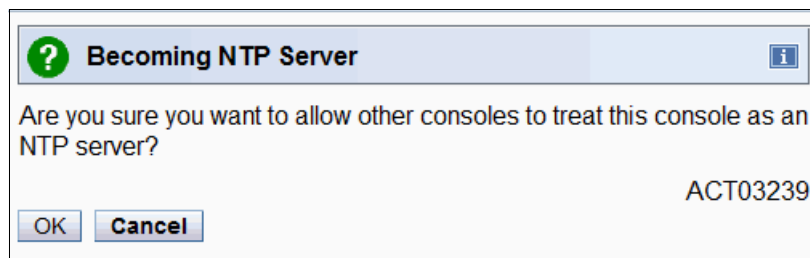

Figure 9-10 HMC: Customize Console Date and Time Becoming NTP server panel
- The next panel (Figure 9-10) requests confirmation that you want to set the HMC as time server. Click **OK**.